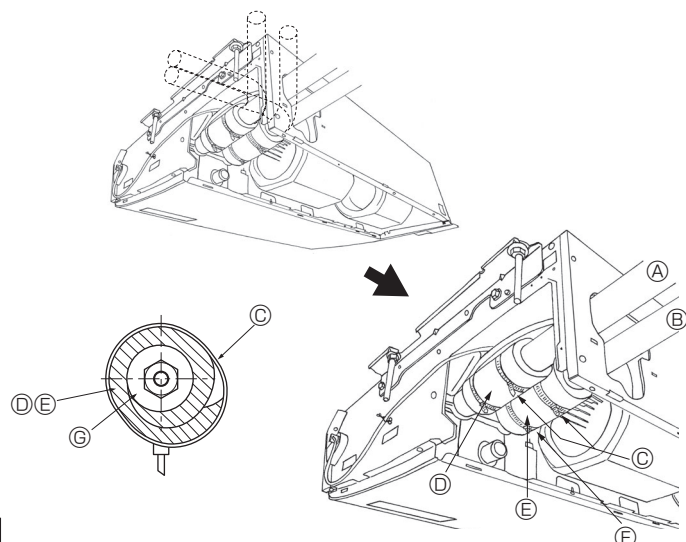

Fig. 4-3
4.3. Unutarnja jedinica (Fig. 4-3)